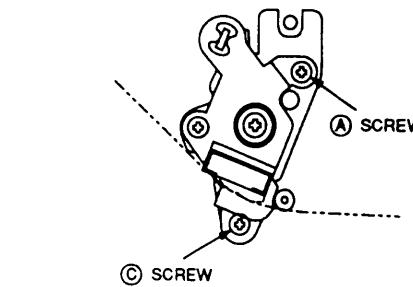

Fig 36.
- Turn the (C) screw to obtain 1/2 of the output level of either CH-1 or CH-2 whichever has an output signal as shown in Fig 36. and 37.